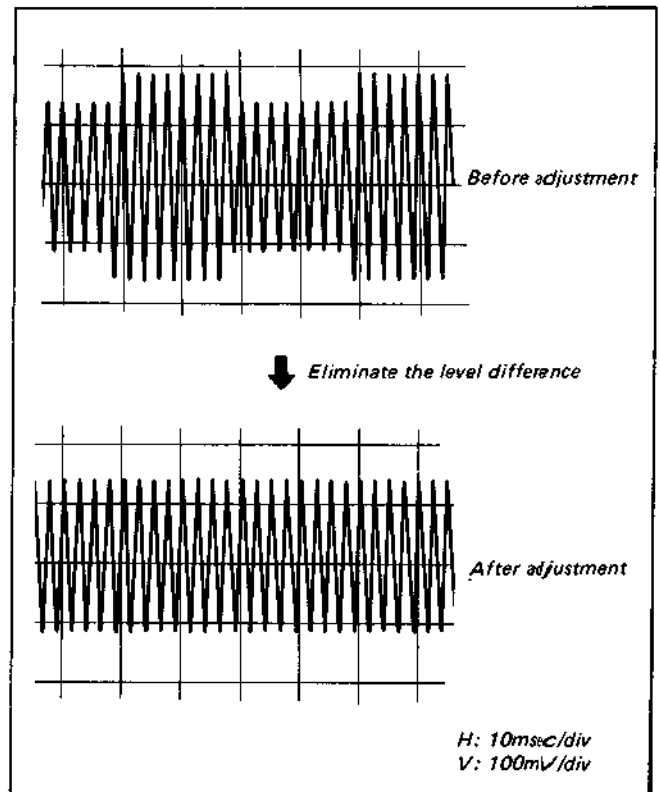

Fig. 5-38. Playback level balance adjustment
- (1) Play back the BETA Hi-Fi alignment tape (KR5-10C).
- (2) Connect an oscilloscope to TP005 (TP006) and adjust to $-20 \text{ dB} \pm 0.1 \text{ dB}$ with RV001 and RV002 (RV014 and RV015), and to eliminate the level difference. (See Fig. 5-38.)
- (3) Restore the shorting between the audio line input and GND.